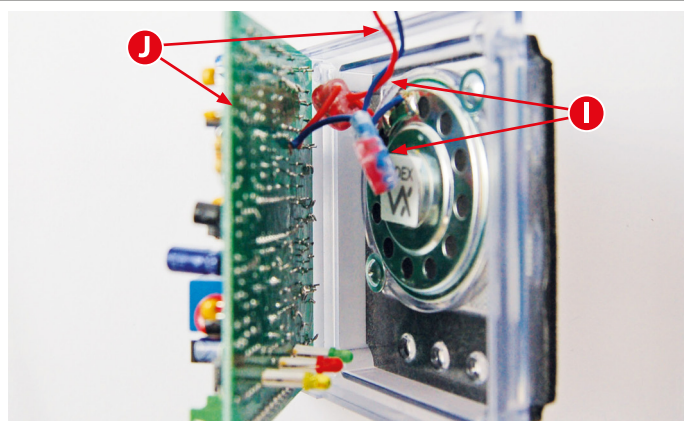

Fig. 25
12. Once both **Scotchlok™** 3 way butt connectors have been crimped place the **red/blue** wire assembly back into the front speaker plastics, as shown in **Fig.25, I**.
13. When placing the **Scotchlok™** 3 way butt connectors back into the front speaker plastics follow it up with the main speaker pcb and ensure that the **red/blue** wires from the connectors lead out from the topside of the front speaker plastics and main speaker pcb, as shown in **Fig.25, J**.